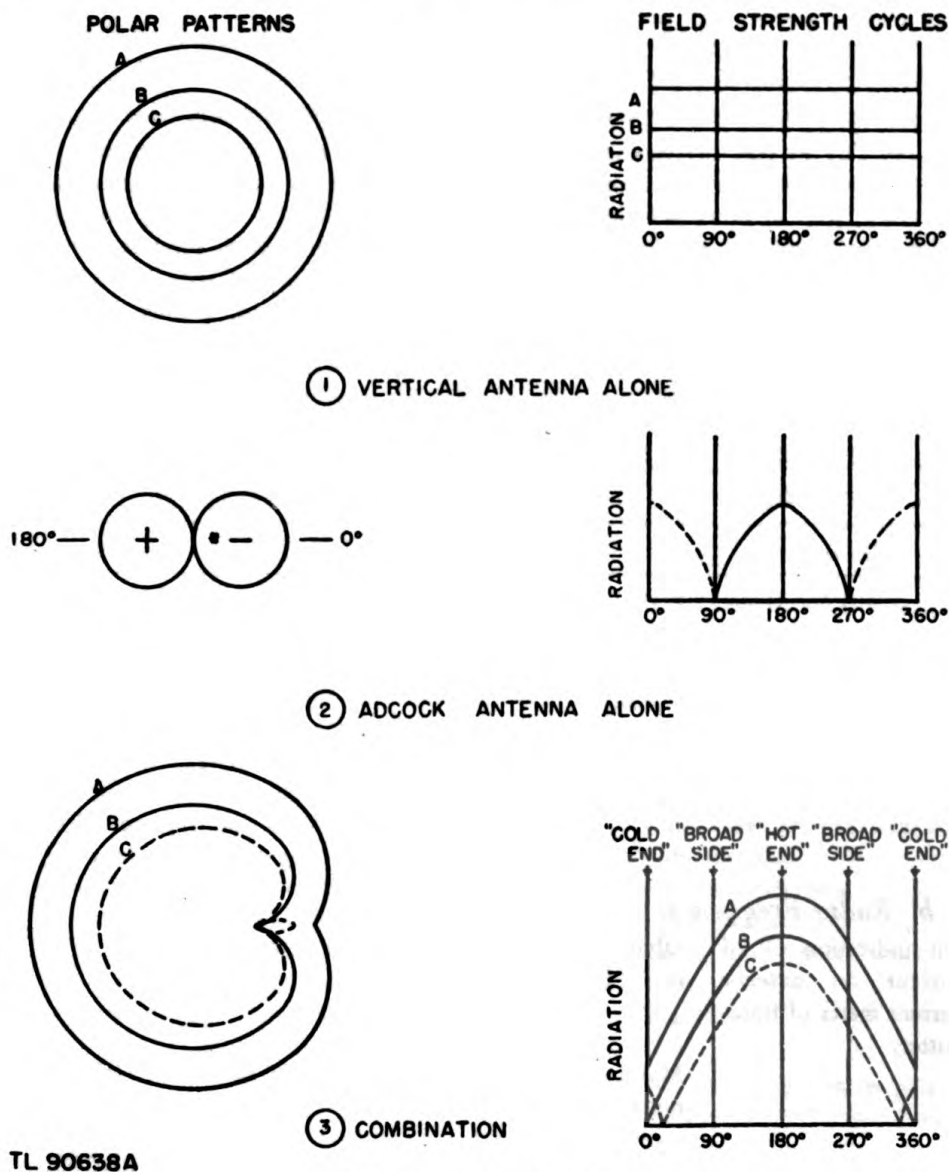

Figure 39. Antenna pattern.
b. The beacon antenna system combines a vertical antenna, which has a circular or non-directional radiation pattern and an H type Adcock antenna, which has a figure eight radiation pattern, to produce a cardioid, or heart shaped radiation pattern (③ fig. 39).
c. A perfect cardioid pattern would be produced if the maximum radiation from the vertical and Adcock were equal as shown by curve B (③ fig. 39). In this case the minimum of the combined radiation would be zero. In practice, the vertical antenna is adjusted to radiate a little more strongly than the Adcock. If the Adcock radiation were the stronger, as indicated by curve C, ③ figure 3, the pattern would be a lop-sided figure 8 with two minimums close together.